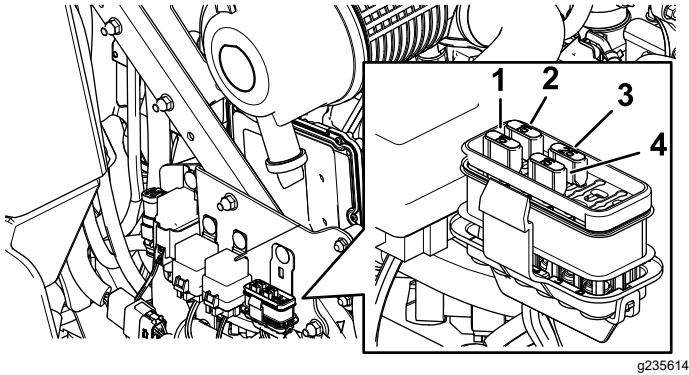

Figure 47
3. Install a new fuse (Figure 47).